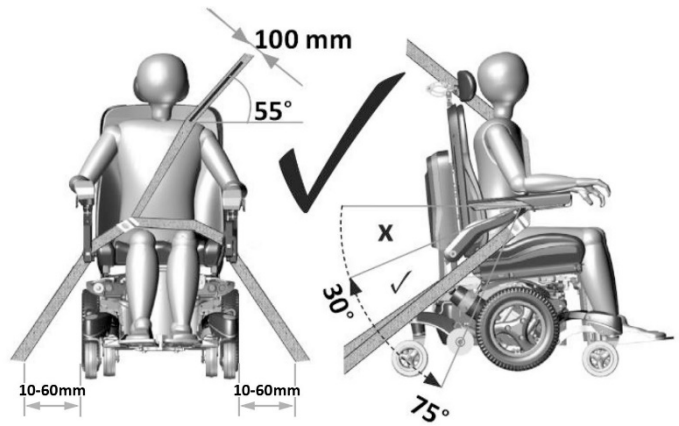
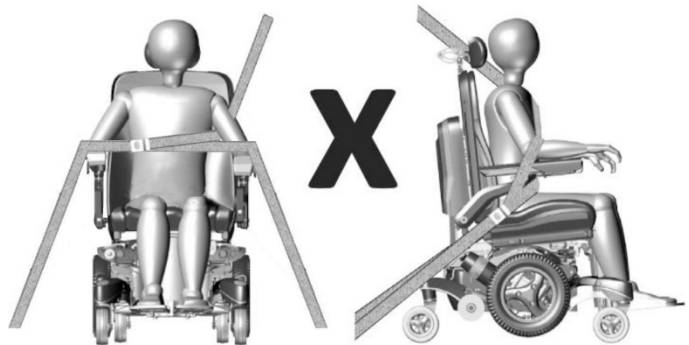

Figure 5 - Correct positioning of three-point occupant restraint
Figure 6 - Incorrect positioning of three-point occupant restraint
- Restraints should be mounted to the appropriate vehicle pillar and should not be held away from the body by powerchair components such as armrest or wheels (Figure 6)
- A pelvic belt should be worn low across the front of the pelvis so that the pelvic belt restraint angle is between 30° - 75° relative to the horizontal (Figure 5)
- The upper torso restraint belt must fit over the shoulder and across the chest as illustrated (Figure 5). Do not fit restraint belt as shown in Figure 6